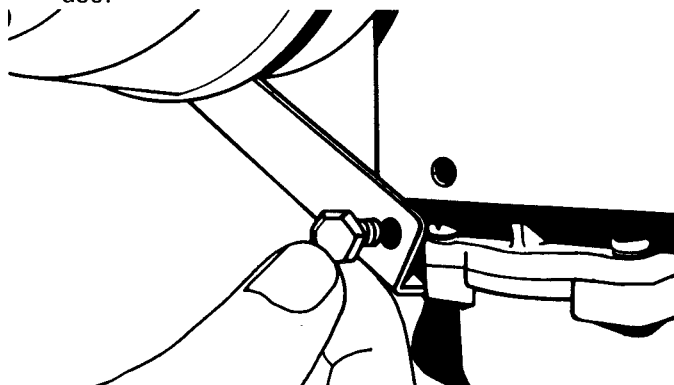

FIGURE 64
4. Remove screw securing side brace (under muffler) to Carburetor Cover as shown in Figure 64. Carburetor Cover will now lift off and out of the way.